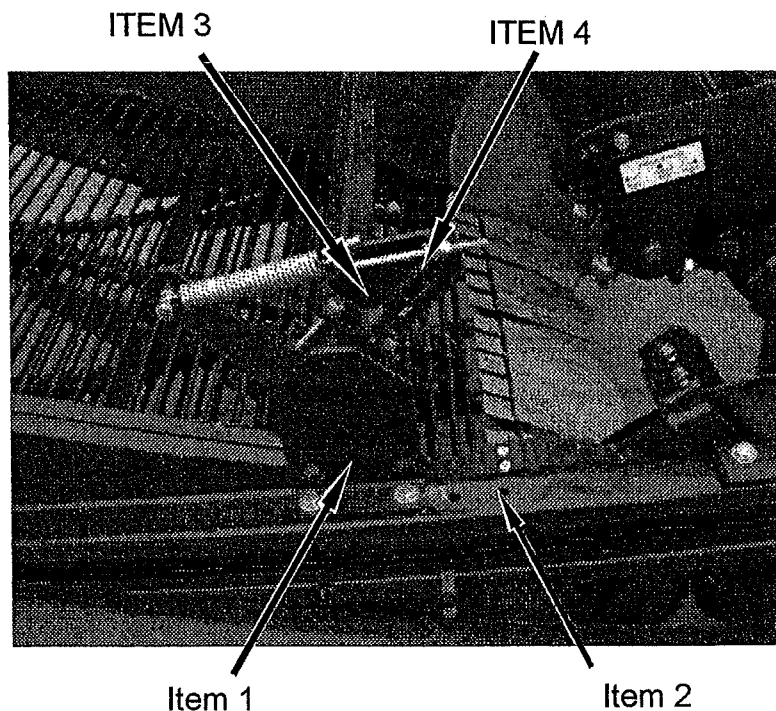

Fig 10.4
Further adjustments of the rollers width position can be made by moving them laterally on their mounting beam (Fig 10.4 item 1). Slacken clamp bolts, move the roller unit to the required position and tighten the clamping bolts again (Fig 10.4 item 3). Under certain conditions it may be advisable to exchange the left hand and right hand roller units in order to achieve the optimum settings.
If you experience problems with haulm rapping around front roller mountings the feeder wheel mountings are adjustable on their mounting bridge. They can be adjusted forwards and sideways to position them for optimum performance (Fig 10.4 item 2). If this problem is allow to continue it may cause haulm to build up and possibly affect the next row by dragging the crop out or, lifting the digging depth out, causing damage to the crop.
The tension of the haulm feed in rollers may be adjusted, to give more or less pressure between rollers and web. This is achieved by increasing or decreasing the spring tension between the roller mounting arm and the spring anchor. The tension should be sufficient to allow the rollers to grip the haulm and to achieve a positive drive from the web (Fig 10.4 item 3).